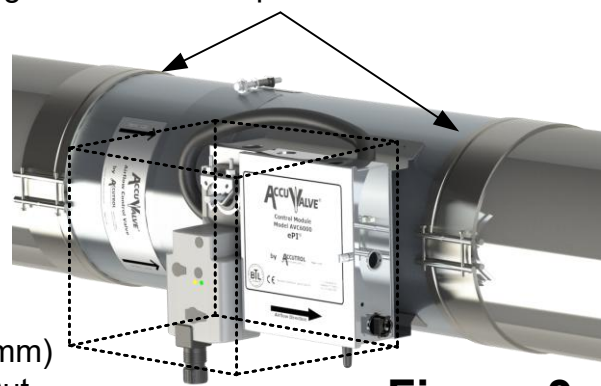

Figure 3
6. Install the valve into the duct in accordance with the Airflow Direction Label located on the valve. Position valve for easy access to the transmitter side and secure to duct per Figure 3.